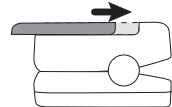

Fig. 3c
3. Close the bottom panel (fig. 3c).